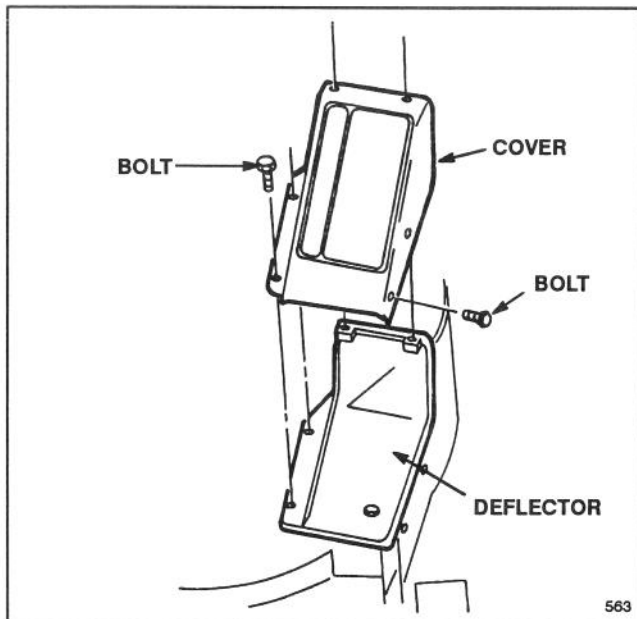

Figure 1
2. Remove and save the (7) bolts securing the Recycler® mower cover–deflector assembly to the deck (Fig. 1). Save the assembly for possible future reinstallation.